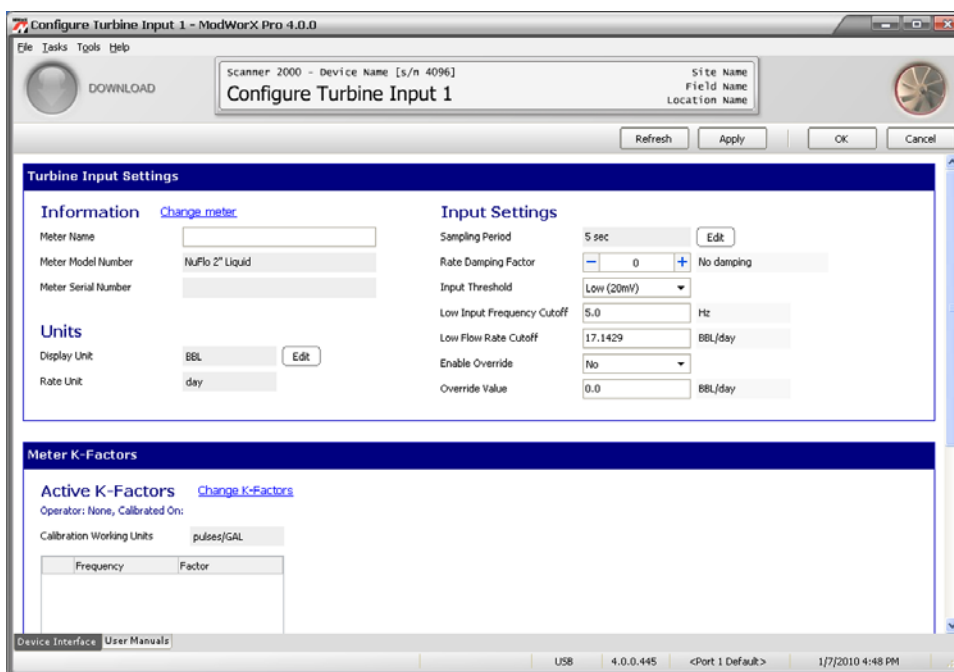

Figure 5.3
The Configure Turbine Input screen will appear (Figure 5.3).
1. Enter turbine input settings (Figure 5.3, page 70).